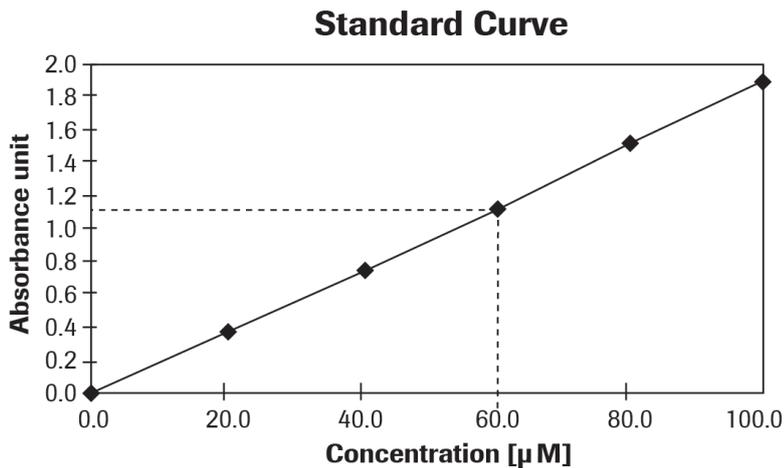

Fig. 2: Standard curve
- 2 Determine the inverted slope of the standard curve ($\mu\text{M}/\text{absorbance unit}$) as shown in Figure 2.